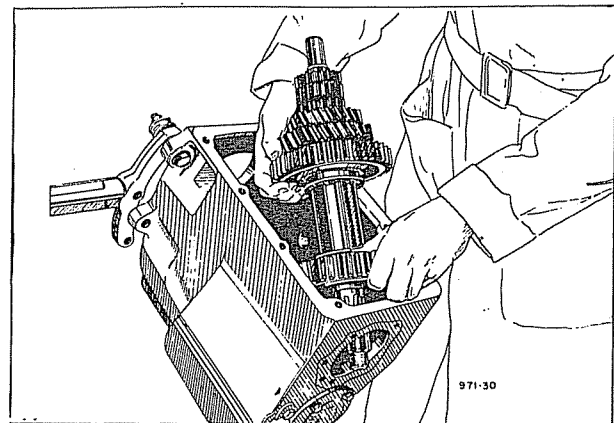

Fig. 23— Removing Mainshaft and Gears. (Typical view).
- (7) Lift the mainshaft and gears out through the top of the casing. (Figure 23).